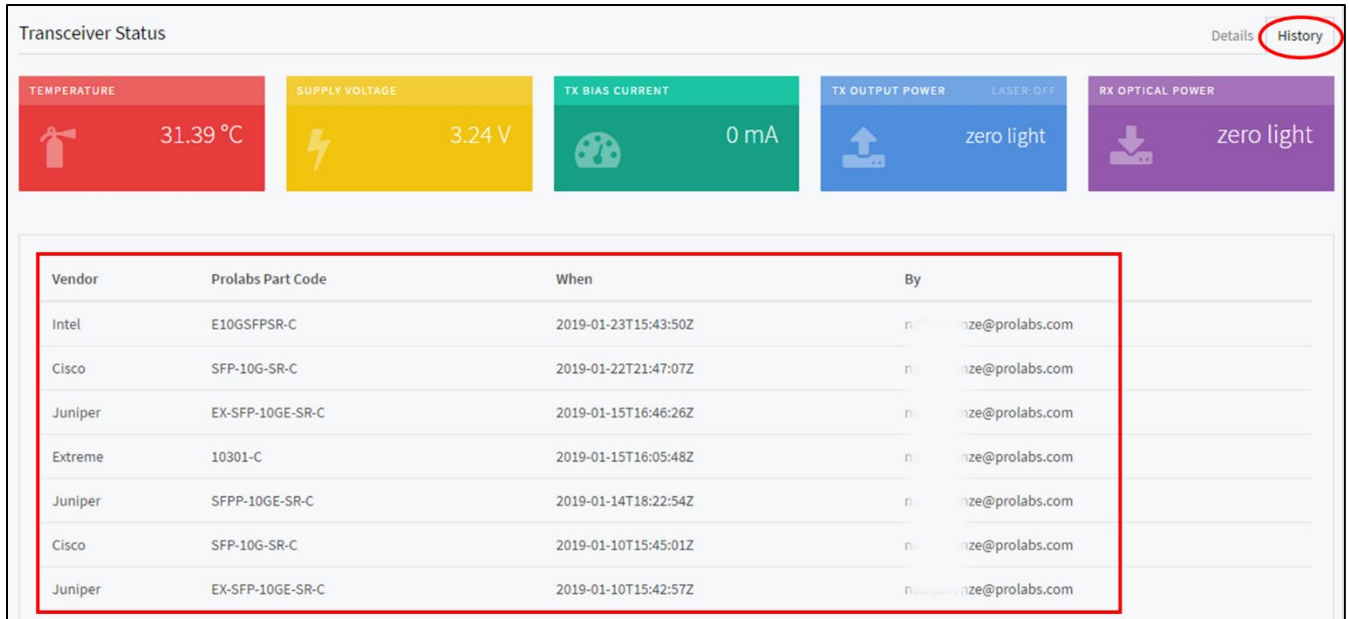

Figure 8 – Transceiver History
- The “History” tab in the application interface displays the ten most recent operations on a specific transceiver by ProTune™. See Figure 8. Please note that only coding operations used by the ProTune™ system will be listed.